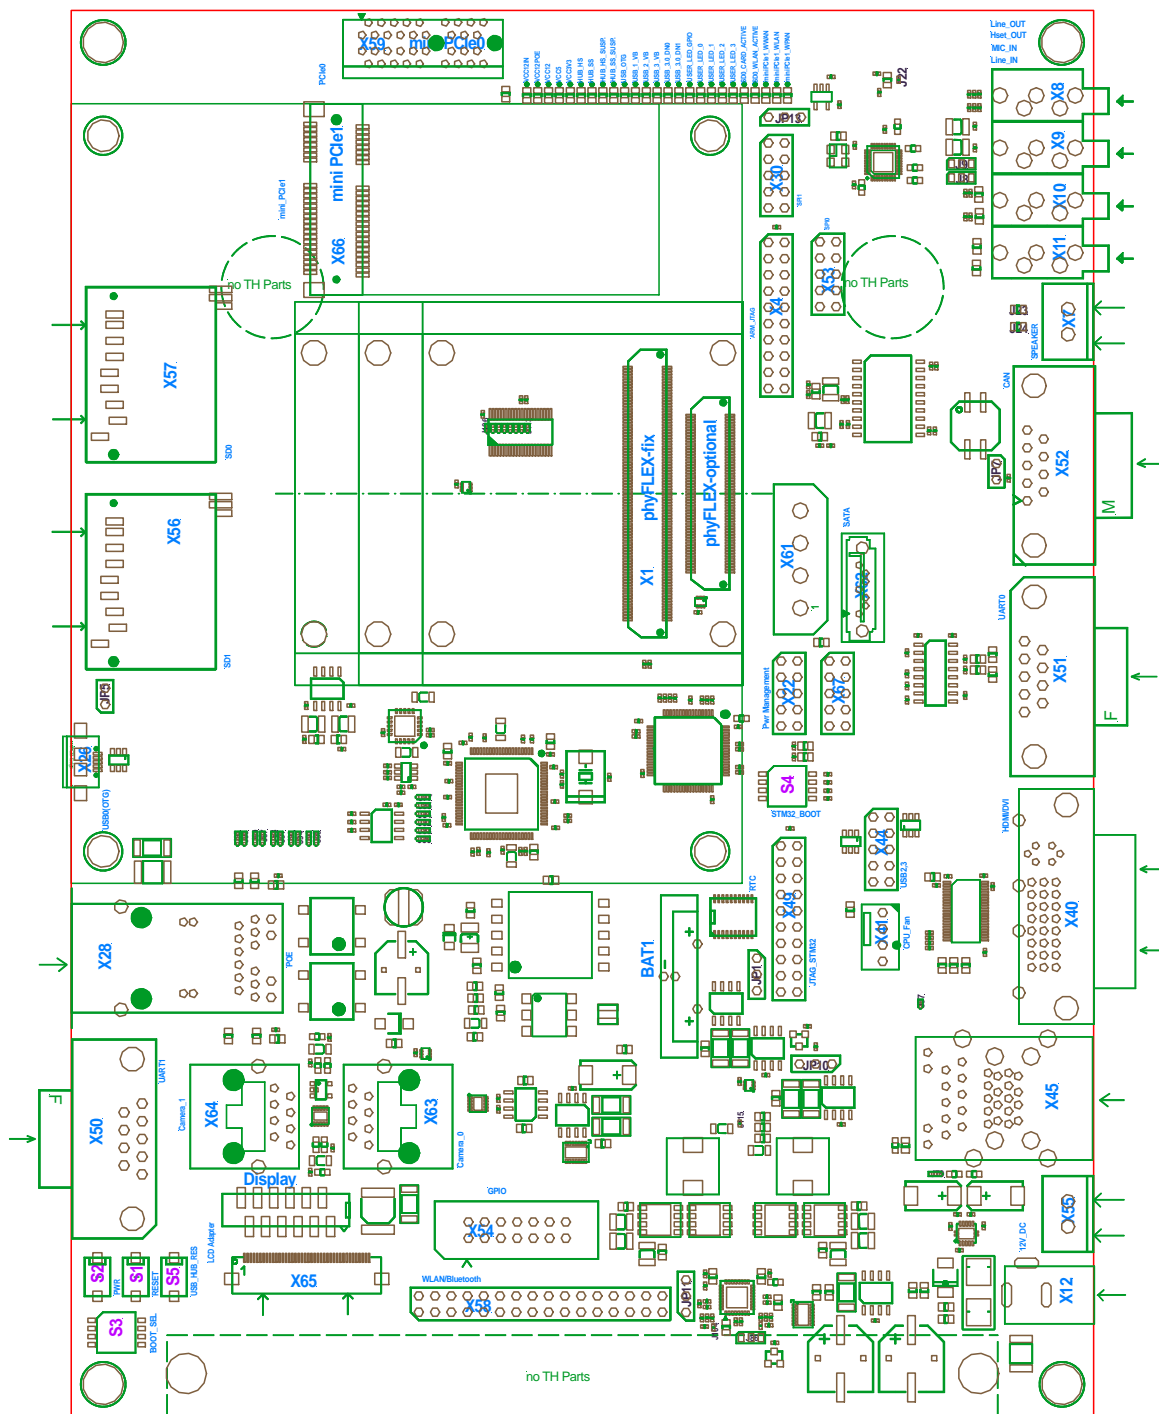

Figure 11: phyFLEX Carrier Board Overview of Connectors, LEDs and Buttons
The phyFLEX Carrier Board is depicted in Figure 11. It is equipped with the components and peripherals listed in Table 34, Table 35, Table 36 and Table 37. For a more detailed description of each peripheral refer to the appropriate chapter listed in the applicable table. Figure 11 highlights the location of each peripheral for easy identification.
*Table 34* lists all available connectors on the phyFLEX Carrier Board. *Figure 11* highlights the location of each connector for easy identification.
The phyFLEX Carrier Board is populated with some switches which are essential for the operation of the phyFLEX-i.MX 6 module on the carrier board. Figure 11 shows the location of the switches and push buttons.
The phyFLEX Carrier Board is populated with numerous LEDs to indicate the status of the various USB-Host interfaces, as well as the different supply voltages. Figure 11 shows the location of the LEDs. Their function is listed in the table below: